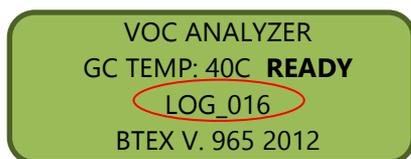

Figure 4.7-1: FROG-4000™ display screen at the beginning of a sample run.
4. The computer screen now displays a list of sequential files named “LOG\_XXX”. The file names are created and assigned by the instrument. They appear on the instrument screen at the *beginning* of each analysis cycle as shown in Figure 4.7-1.